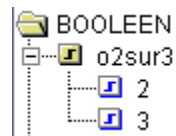

Figure 123 : Versions of an operator model
- ◆ Click on  to display the versions (Figure 123),
Warning : If several model versions exist, only in the last version is duplicated. To duplicate another version of the operator, user must select the right version in the operator tree structure (Figure 123) before launching the command **Model ... → Duplicate**.